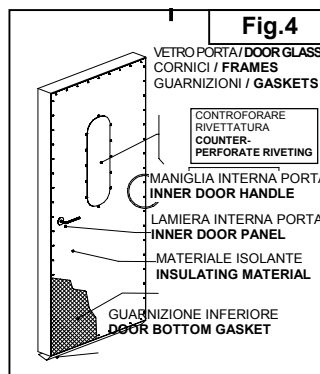

Fig.4
-Staccare la lamiera interna porta ed accedere al materiale isolante **Fig.4**.
-Detach the inside panel of the door and remove the insulating material **Fig. 4**.